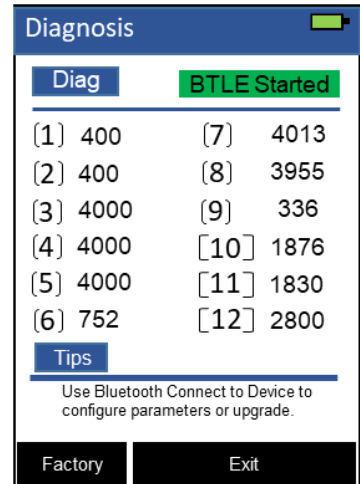

Figure 27
1. Power on the SP-208 by pressing (OK).
2. Press **System** (OK) to launch the **Information** screen.
4. Allow 5–10 seconds for the message in the top-right corner of the display change from **Starting BTLE...** to **BTLE Started** (Figure 27).